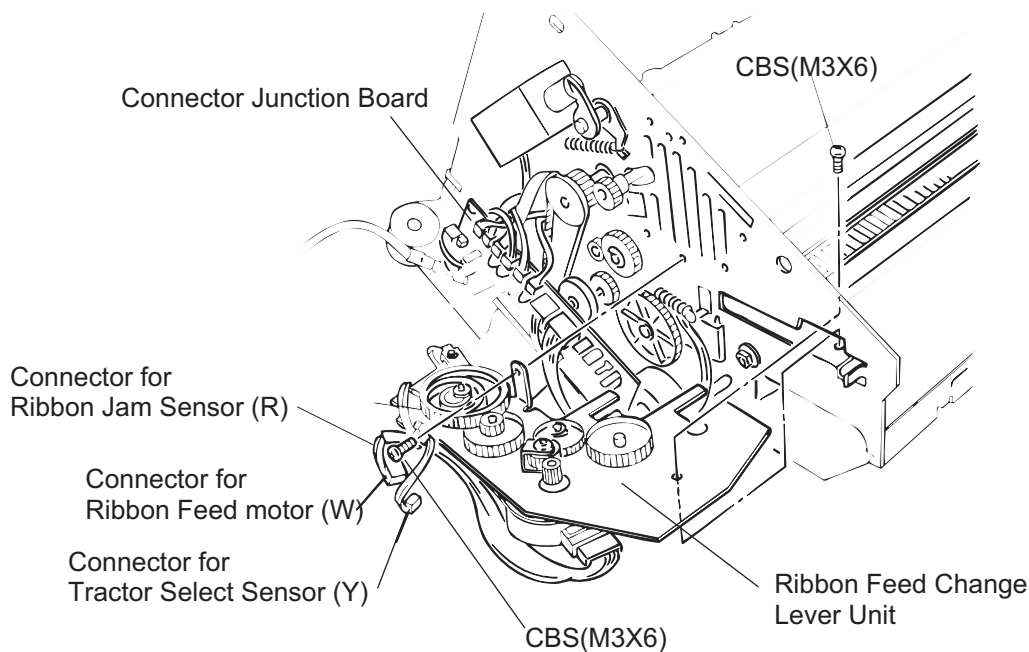
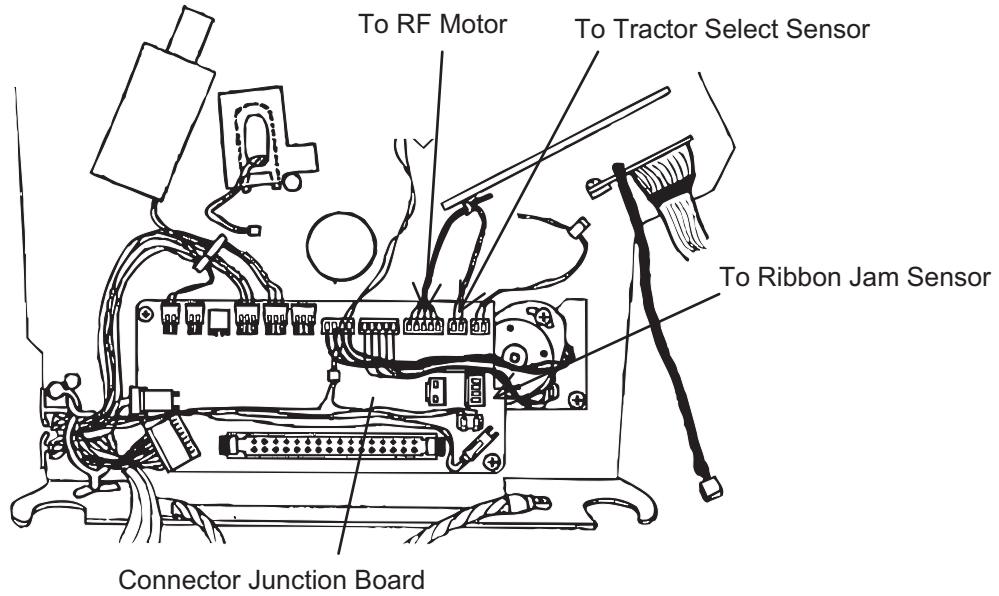

Figure 3-47. Ribbon Feed Change Lever Unit Removal (2/2)
Figure 3-48. Removing Connectors
- Step 2: Disconnect the three connectors for the ribbon feed motor, tractor select sensor, and the ribbon jam sensor from the connector junction board, as shown in Figure 3-47 and Figure 3-48.